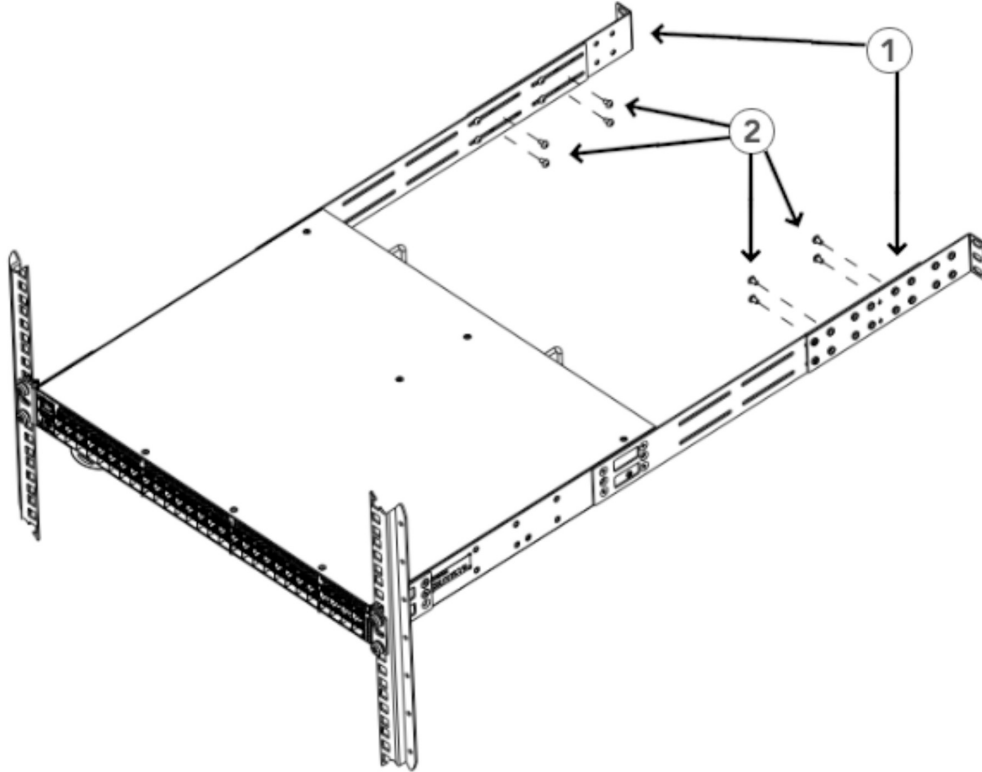

Figure 7. Attaching the Rear Brackets to the Extensions
2. Slide the right rear bracket onto the right extension bracket, as shown in Figure 7.